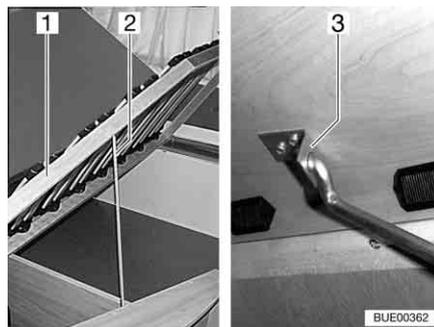

Fig. 75 Fixed bed
- Lift the slatted frame (Fig. 75,1), release the rail (Fig. 75,2) from its bracing and insert into the cavity in the holder (Fig. 75,3).
- Lift the slatted frame (Fig. 75,1), release the rail (Fig. 75,2) from the holder (Fig. 75,3) and clamp into the bracing.